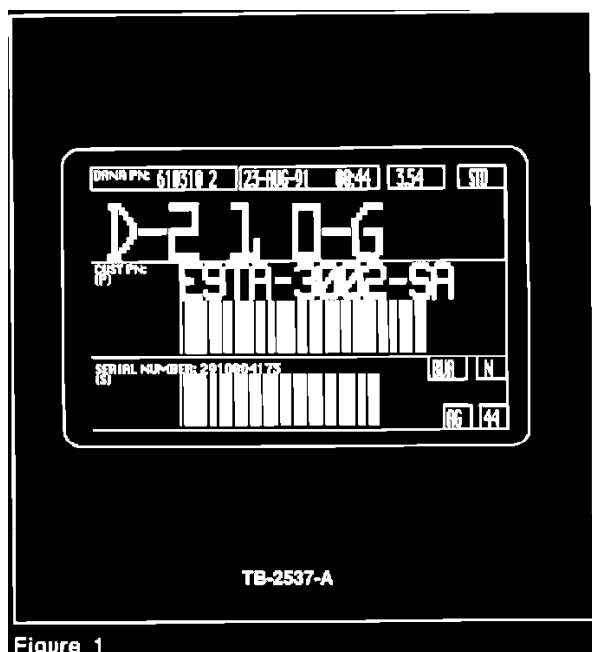

Figure 1
The 1992 model year axles use a glue-on label that replaces all three of the prior identification markings, Figure 1. The new label is on the rear face of the right hand arm (tube).
**ACTION:** Since this glue-on label, Figure 1, is the only identification, be sure that the information on the label is recorded in a retrievable place before any service actions are taken which will damage/destroy or remove the label.